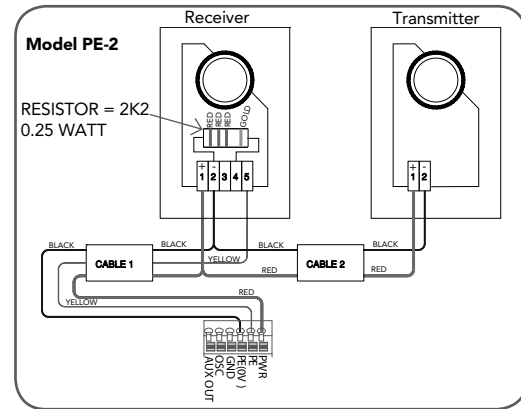

fig 46
- Connect the wires from the PE Beams wiring harness to the terminal block (**Fig. 46**). The wiring diagram is for Model PE-2 (Order Code 90214).
**WARNING:** Install the PE Beams as per diagram in (**Fig. 46**). **Tampering with** PE Beams could result in serious personal injury and/or property damage and will void the warranty.